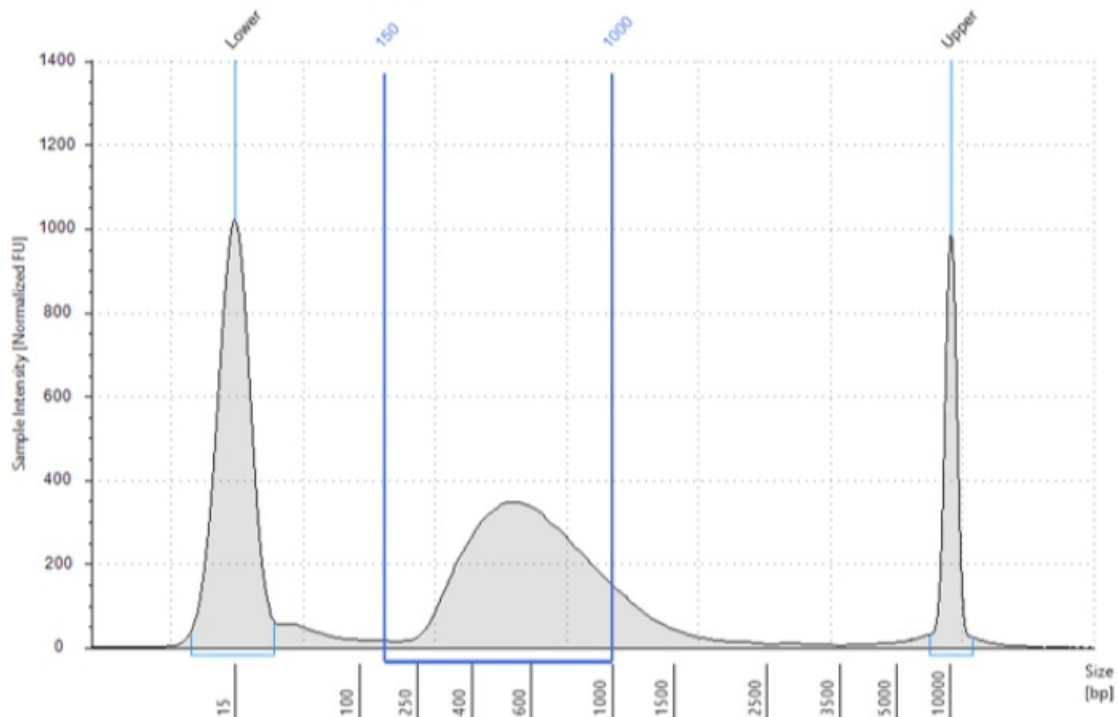

Figure 2. An example of exome captured library profile from a Tape Station High Sensitivity D5000 Screen Tape assay.
2. To determine the library concentration, set the Region on the Bioanalyzer or TapeStation analysis software from 150 bp to 1000 bp. Record sample Concentration (nM) for this region (see Figure 2). To determine the library size, set the Region from 150 bp to 3000 bp. Record sample Average Size (bp) as Library Size.